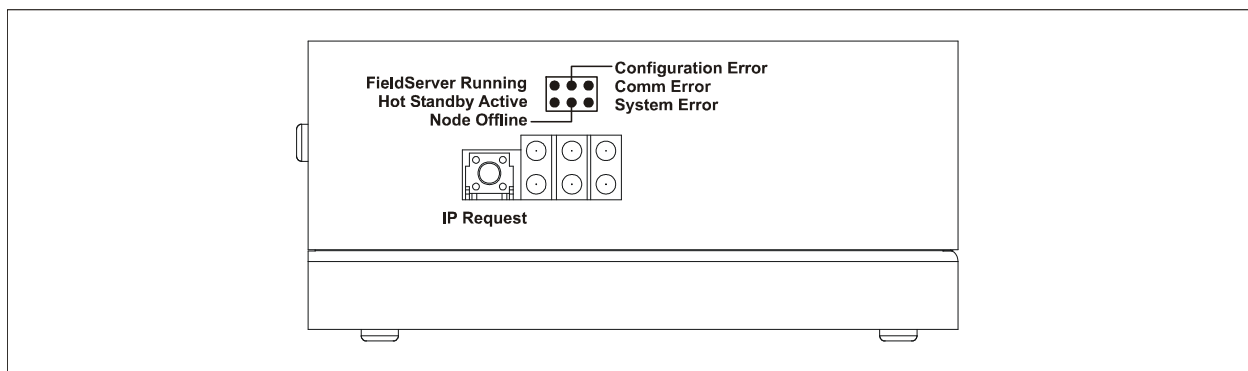

Figure 2-3: Diagram of FS-X20 Showing LED's
- Check the "Activity" LED on the Ethernet connection (see Figure 2-3), this should flash at least once every 2 seconds if RUI is still running, and perhaps more often, depending on network traffic. (Refer to Appendix B)